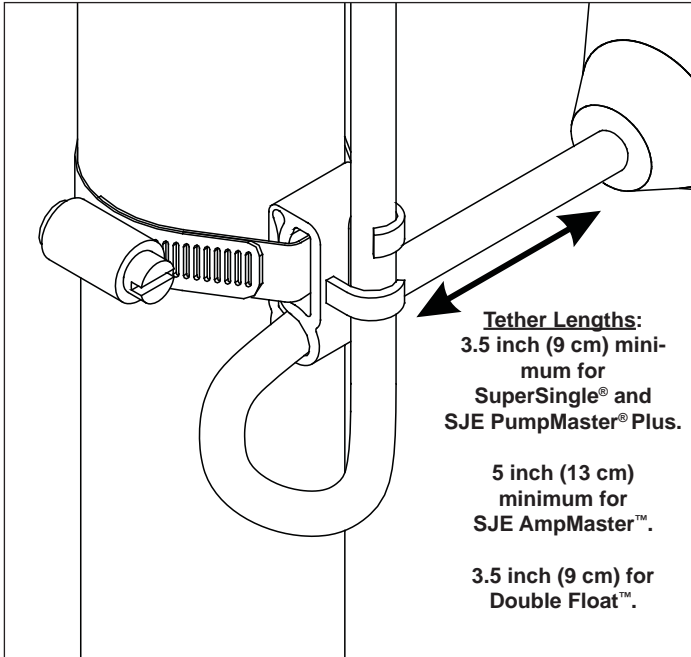

FIGURE 3 - Mounting clamp detail
3. Mount float switches at appropriate levels as illustrated in **Figures 3**. Be sure that floats have free range of motion without touching each other or other equipment in the basin.
4. For mounting clamp installation: place the cord into the clamp as shown in **Figure 3**. Locate the clamp at the desired activation level and secure the clamp to the discharge pipe as shown in **Figure 3**.